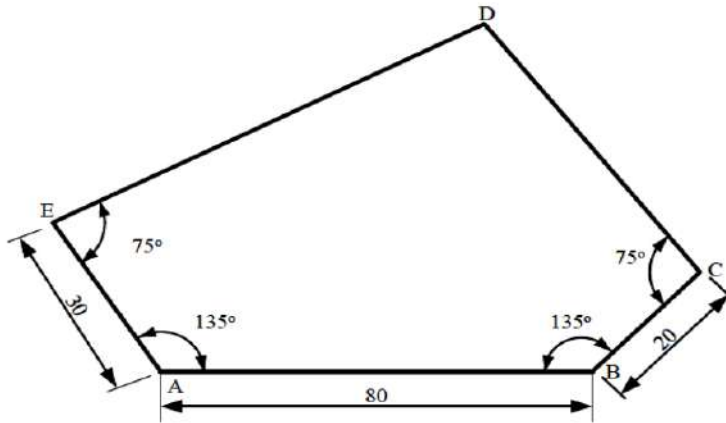

Fig. 3
13. The **fig 3** shows an irregular pentagon ABCDE; using drawing instruments reduce it to the ratio of 4:3.